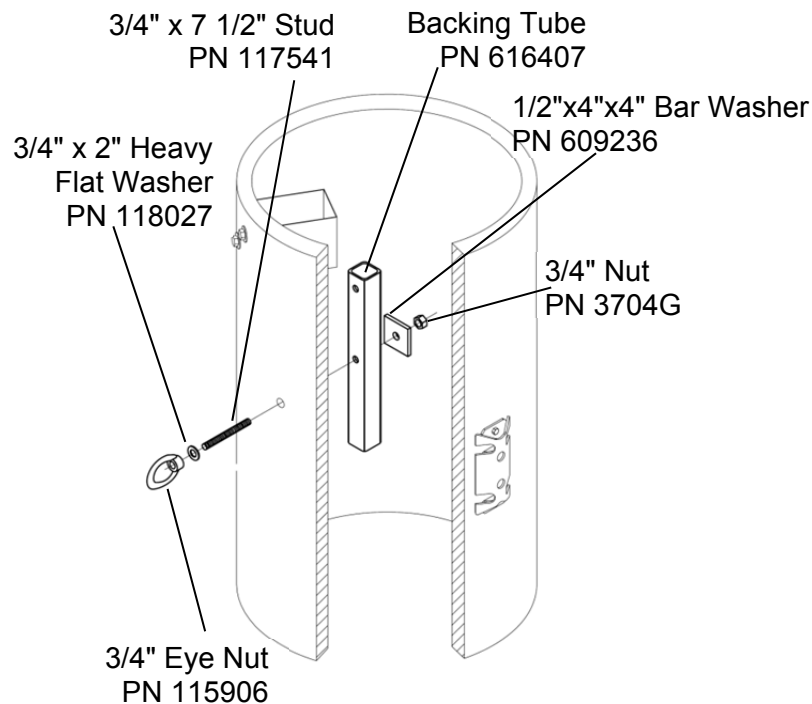

Figure 31 - Pullout Assembly
5. The REACT 350[®] system must be pulled out to its original length after each impact. The Pullout Assembly must be attached prior to this procedure and removed and stored when finished (see Figure 31).